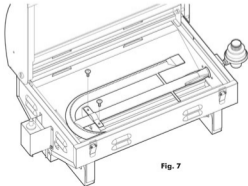

Fig. 7
3. To remove the Burner, first remove the Bolts that fasten the Burner to its support bracket (figs. 7).